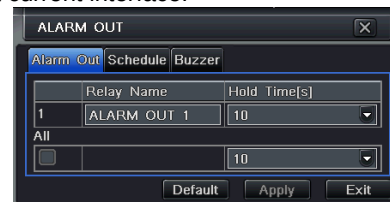

Fig 4.27 System Configuration - Alarm Out
① Alarm out
Step 1: Enter into system configuration → alarm out. Refer to Fig 4.27.
② Schedule